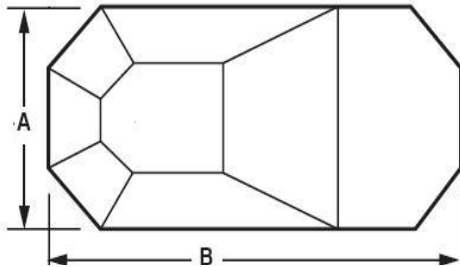
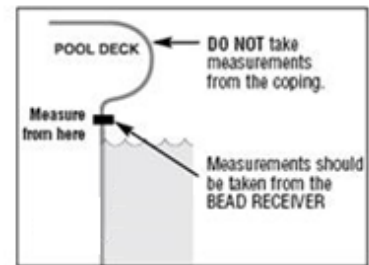

Figure 1
Figure 2
Referring to the illustration of your grecian pool (figure 1), be sure that the width (A) and the length (B) measurements are made at the bead receiver (where the liner snaps into the track), not at the edge of the coping (the edge of the pool deck). See figure 2.